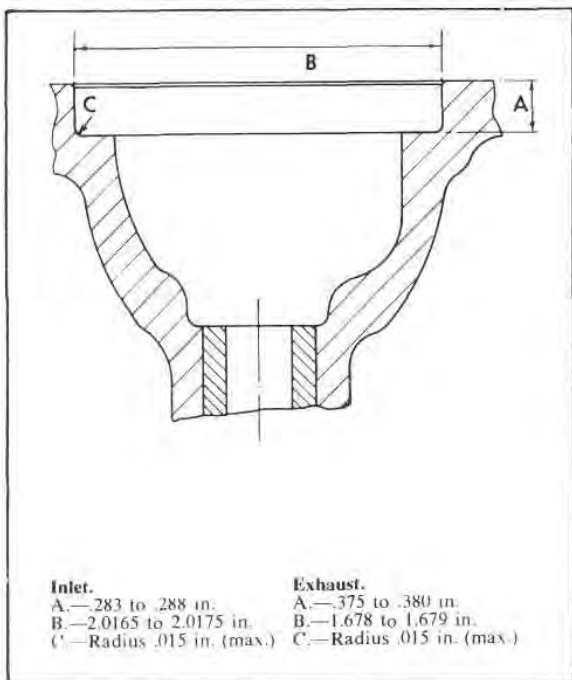

Fig. B16 — Valve Seat Cutting Dimensions
1. Using the new valve bore as a pilot, machine the recess in the cylinder head face to the dimensions in Fig. B16.